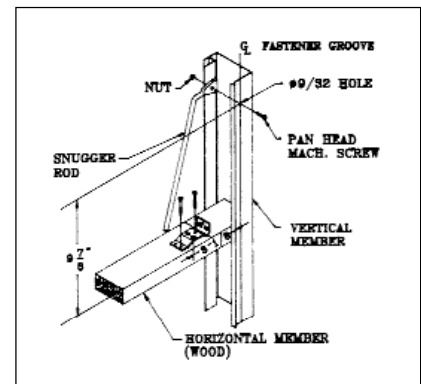

FIGURE 17
Select a horizontal door member that is at a convenient height and drill (1) 9/32" diameter hole in the vertical door member. Refer to **figure 17** for hole location.
Slip rod support on straight end of snigger rod and properly position assembly to determine proper location of rod shank. Fasten rod support with (2) ring nails as shown. Slip the large link on the end of the chain over the snigger rod and insert snigger rod into the rod support. Secure the opposite end to vertical member using (1) 1/4" fastener and nut as shown. **See figure 17.**